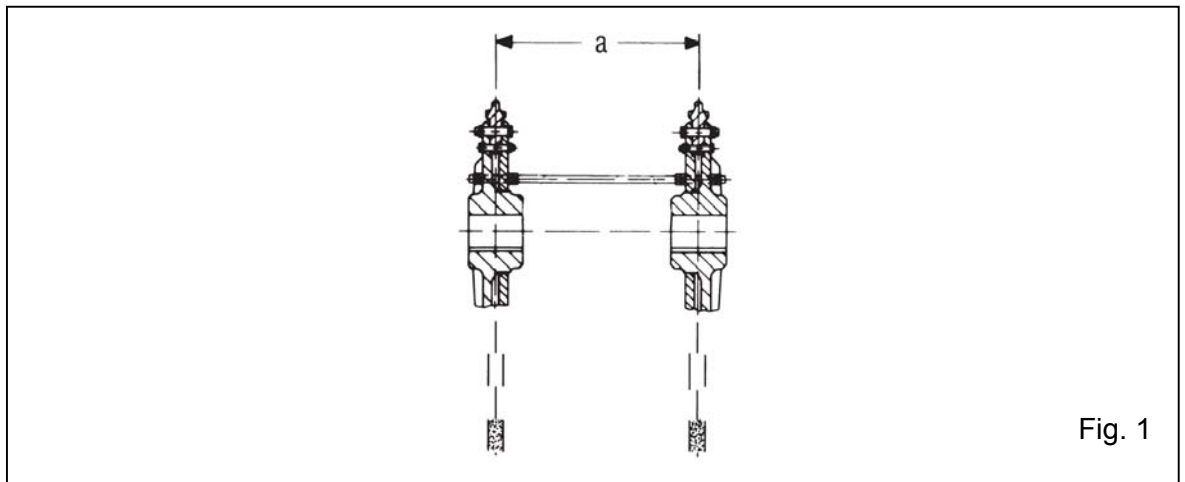

Fig. 1
2. Mount the wheels with a separation of distance "a" with 2 spacing screws (fig. 1). (There are corresponding boreholes in the wheels. The spacing screws are not supplied by RUD.)